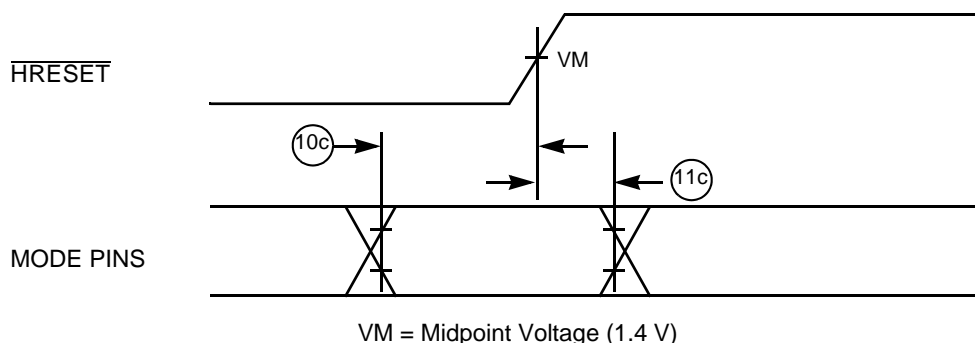

Figure 3. Mode Select Input Timing Diagram
This table provides the input AC timing specifications for the PID7t-603e as defined in Figure 2 and Figure 3.
- The setup and hold time is with respect to the rising edge of  $\overline{\text{HRESET}}$  (see Figure 3).